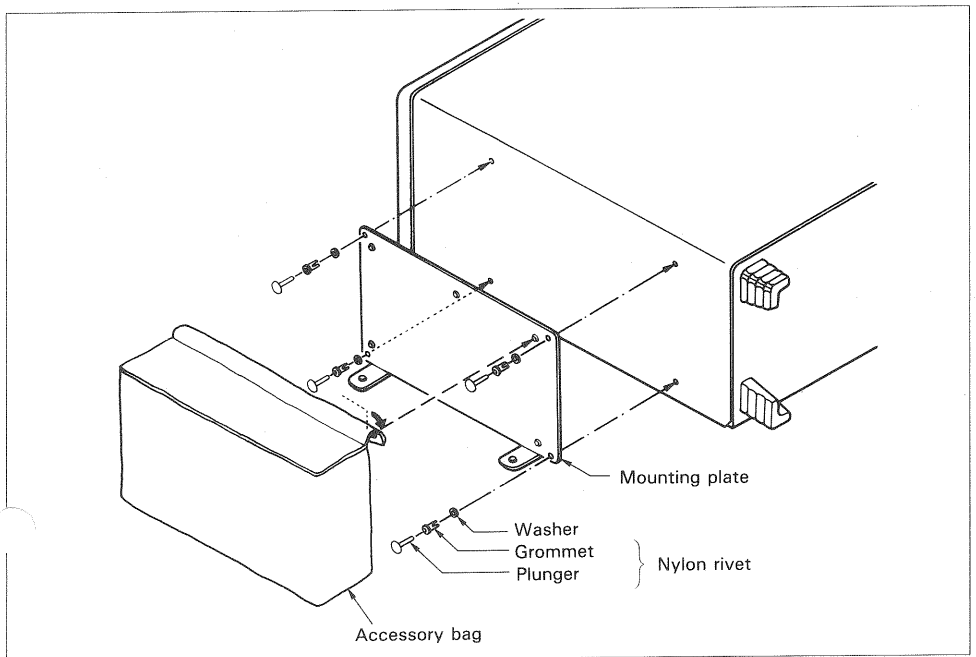

Figure 19. Attaching the Accessory Bag
2. Line up the four holes on the right side (from the front) of the oscilloscope case with the corresponding four holes in the mounting plate. Fix the the mounting plate to the oscilloscope case using the four nylon rivets and washers provided. Be sure that the mounting plate is in the vertical position as shown in Figure 19. Riveting is done by first inserting the grommet into the holes and then the plunger. (When removing just pry the plunger out with a straight edge (-) screwdriver.